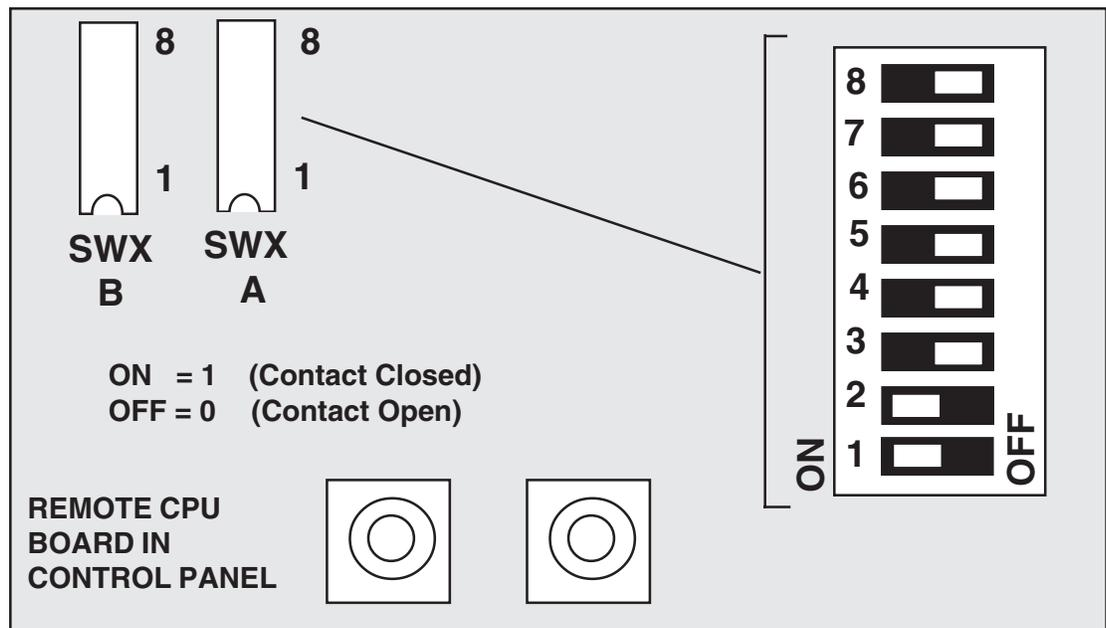

Figure 2-1 Setting DIP Switches A and B
For the controller to identify a particular control panel, a specific device number or polling address must be assigned to each panel. Sequential binary numbers (00000001 thru 10000000) are used for this purpose. The appropriate binary number is entered into the control panel by setting an internal 8-position DIP switch (A) to the binary number. The DIP switch is located on the remote CPU board (Figure 2-1). The device address is normally assigned and entered at the factory. Site personnel will not be required to enter the number unless there is a control panel exchange or a system expansion. In the event of an expansion the Controller system configuration program will have to be updated to reflect the expansion.
Refer to Figure 2-1
The remote CPU board also has a B DIP switch which sets two functions: Panel configuration and Hot Salvo Mode. (Figure 2-1)